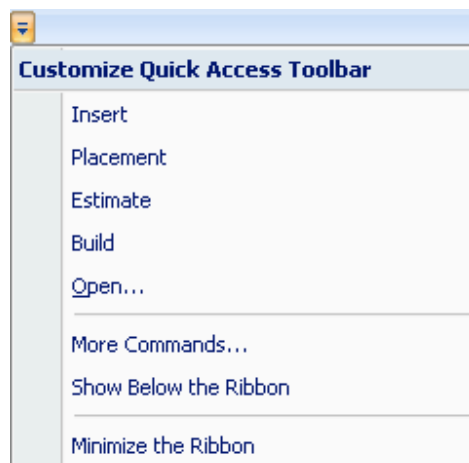

Figure 5-59 *Customize Quick Access Toolbar* menu
- ☐ From the *Customize Quick Access Toolbar* menu (see Figure 5-59 on the previous page), select **More Commands**.